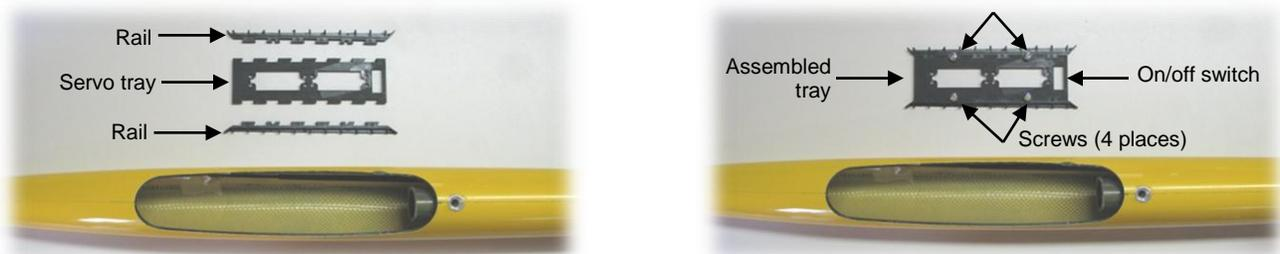

Figure 8: Shows servo tray assembly
- Note that the tray is to be positioned with the on/off switch cutout located towards the back of the fuselage as shown in figure 8.
1. The servo and switch tray is composed of 3 parts, 2 side rails and the tray itself. Press the servo tray into its rails and screw the 4 screws in place to secure the tray in place as shown in figure 8. This will allow the tray to be cemented into place in the fuselage as one unit.